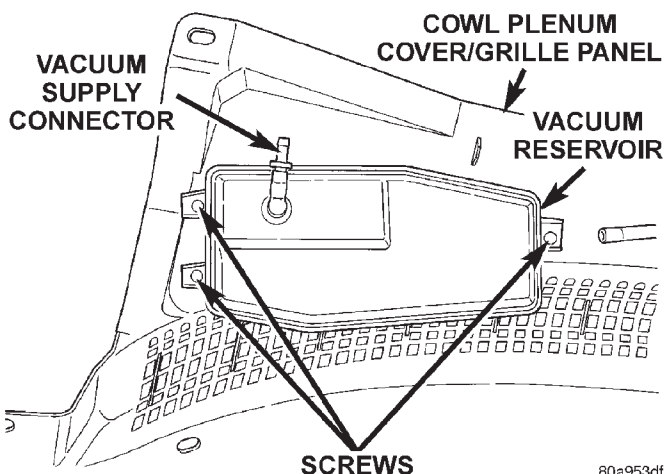

Fig. 7 Vacuum Reservoir Mounting
The vacuum reservoir is located under the plastic cowl plenum cover at lower base of windshield (Fig. 7) or (Fig. 9).
- (8) Disconnect vacuum supply hose from vacuum supply connector at vacuum reservoir (Fig. 7).
- (9) Remove cowl plenum cover/grille panel from vehicle.
- (10) Remove three reservoir mounting screws (Fig. 7).
- (11) Remove vacuum reservoir from vehicle.